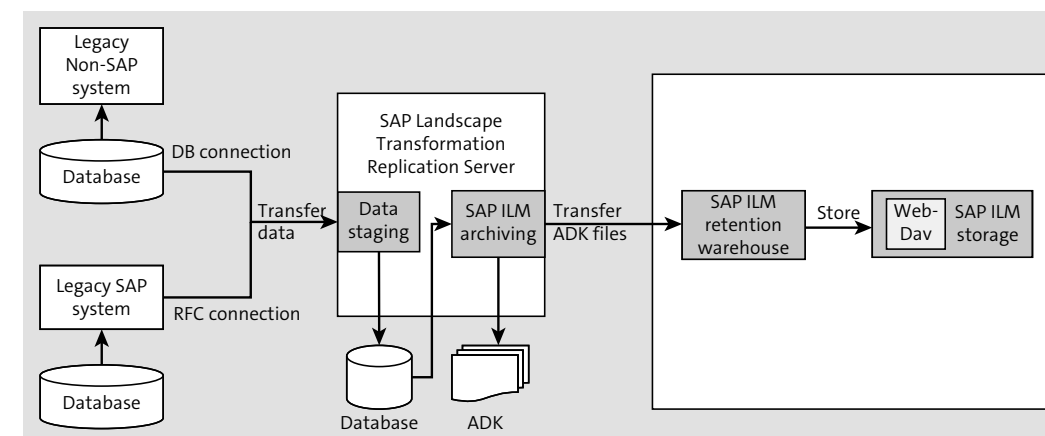

Figure 8.1 Retention Warehouse Scenario: System Architecture
Let's first address the system architecture in an SAP ILM retention warehouse scenario. We'll look at Figure 8.1 and describe the individual components of this scenario on its basis.
2. The SAP Landscape Transformation Replication Server box in Figure 8.1 represents the system that should also contain the DMIS add-on. The DMIS version should be at least 2011 SP14.
4. The box on the far right in Figure 8.1 represents the SAP ILM-enabled storage system (see Chapter 2, Section 2.6).